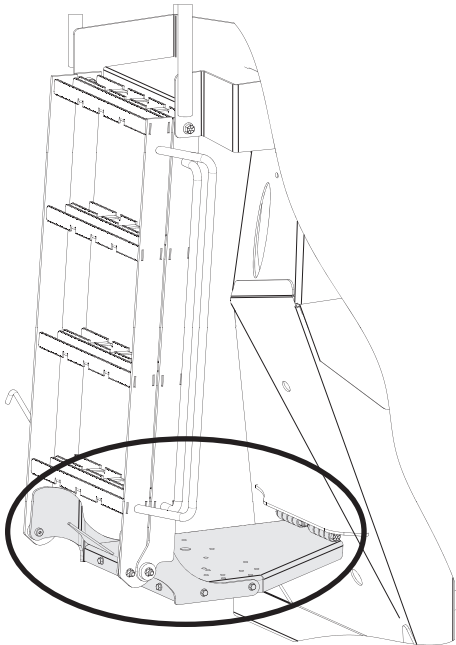

Figure 1
**NOTE:** Be aware that when unbolting the weldment, the lower ladder platform might swing down (Figure 1).